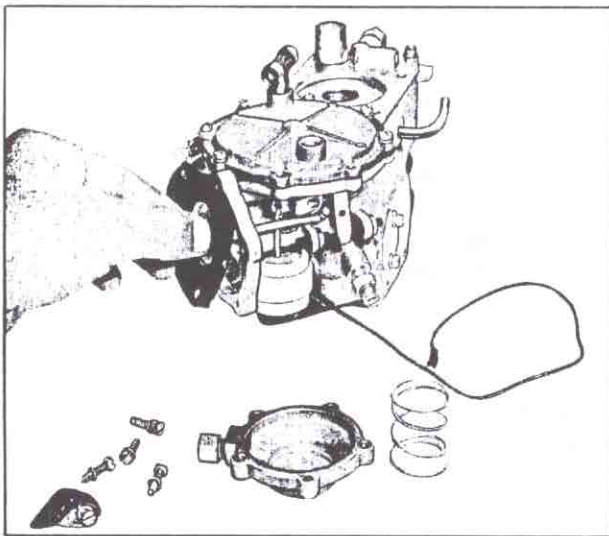

Fig. 153—Installing Power Enrichment Diaphragm
14. Connect enrichment diaphragm rod by slightly twisting the enrichment diaphragm rod to hook into enrichment lever, then secure rod with hairpin retainer (fig. 153). Complete installation by placing diaphragm return spring between enrichment cover diaphragm and secure with five attaching screws. Use care to align diaphragm holes with holes in fuel meter to prevent a twisted diaphragm installation.